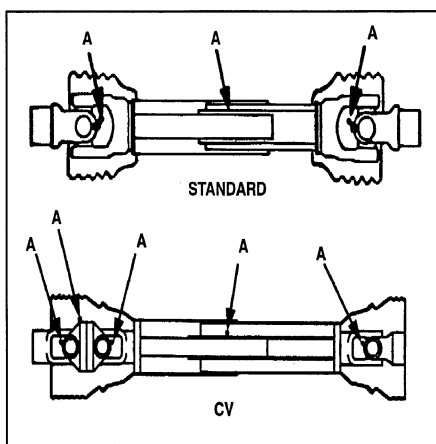
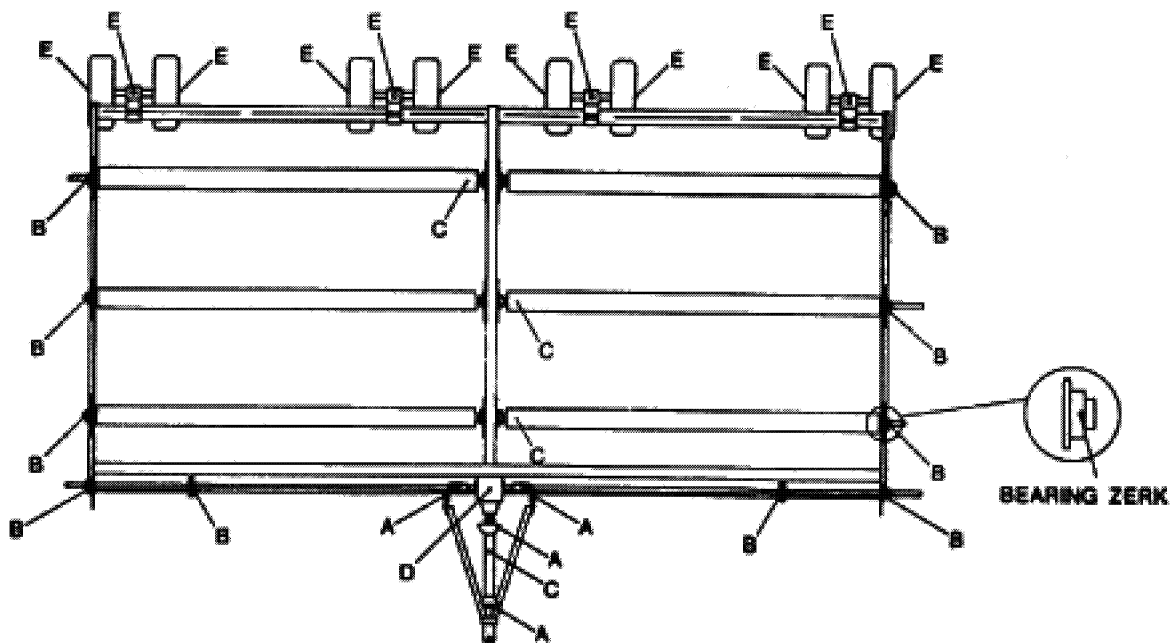

Figure 22 Driveline
Figure 24 Lubrication Diagram
The period recommended is based on normal operating conditions. Severe or unusual conditions may require more frequent lubrication or oil changes. Refer to Figure 24 for details.
1. Lubricate PTO driveline, position A, Figure 22 and Figure 24.
See Figure 24 for positions identification.